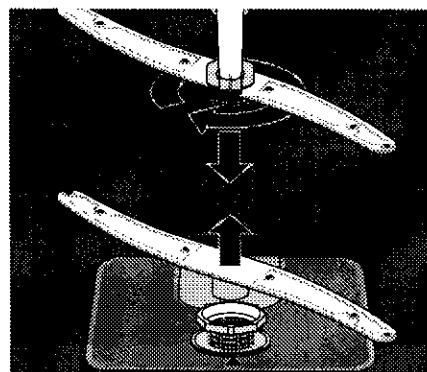

Figure 40
2. The upper wash arm is held in position by a locking nut. Turn the locking ring approximately 1/8 turn clockwise to release the arm. See Figure 40